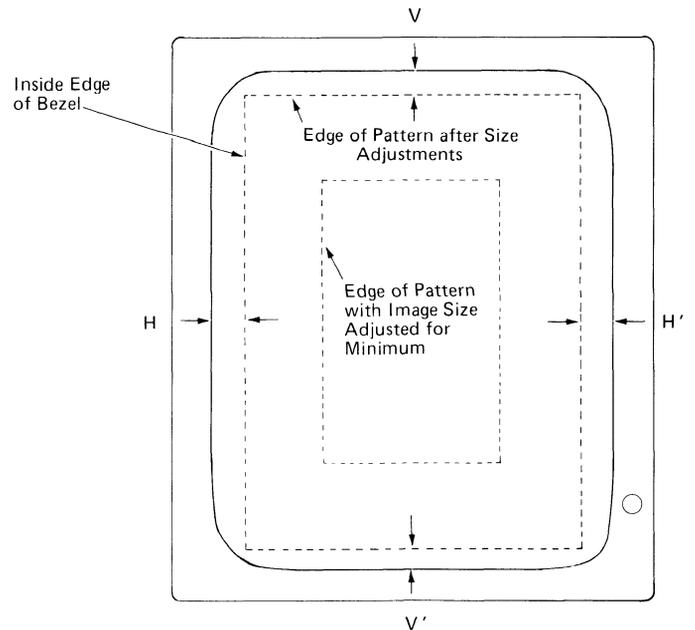

Figure 14 - Image Size Adjustment
7. Adjust R203 to increase the image height until the sum of the dimensions V and V' is 20 to 25 mm (0.8 to 1.0 inches). (See Figure 14.)